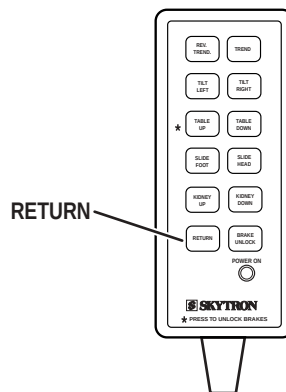

Figure 2-11. Return Function
h. Return Function. Pushing the RETURN button will return the table top to a level position from lateral tilt and/or trendelenburg positions. See figure 2-11.